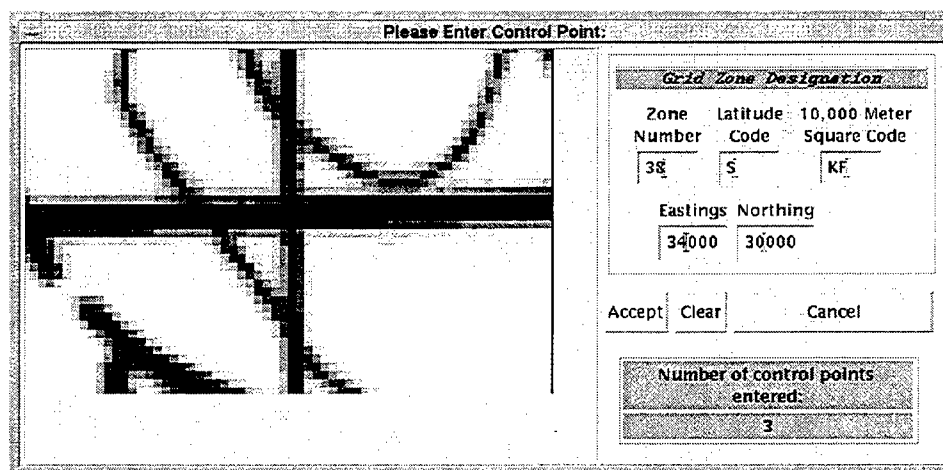

Fig. 60 — Control Point Entry Window, including zoomed-in area surrounding the point, plus entry boxes for geographic coordinates (here, in MGRS format)
- b) MMC will display a **Control Point Entry Window** with a zoomed-in view of this point and the surrounding area to let the user pick the point more accurately (Fig. 60). In this window, click on the selected point as accurately as possible (e.g., the intersection of latitude and longitude lines), then enter the latitude and longitude values for this point. To reenter these values, click on *Clear* and reenter them. Note: if MGRS is the preferred control point format (in step 1), enter the control points in MGRS units, as shown in Fig. 60, not latitude and longitude.